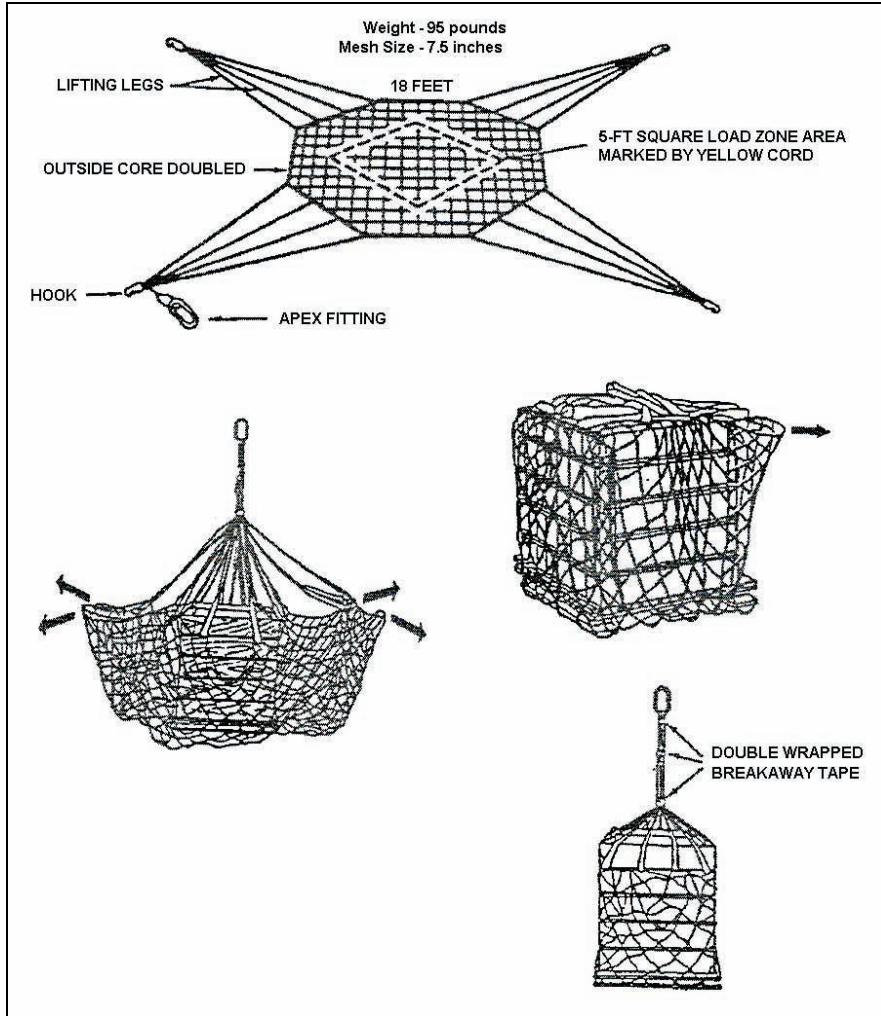

Figure 3-96. Apex Fitting, Netting, and Taping
2. Make a final inspection of the apex fitting, netting, and taping before hookup to the aircraft, ensuring the net and load is secure (see Figure 3-96).